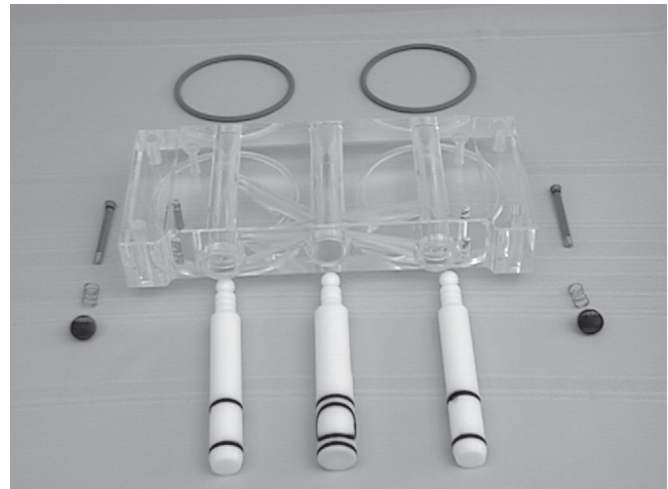

Figure 25. Front Door Assembly
- H. Install the spigots through the bottom of the front door. Figure 25.